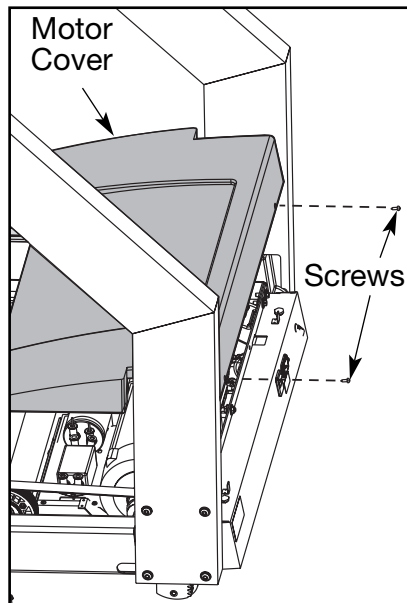

Figure 1
- B. Lift the motor cover and remove it from the treadmill. Set the cover and screws aside. See Figure 1.